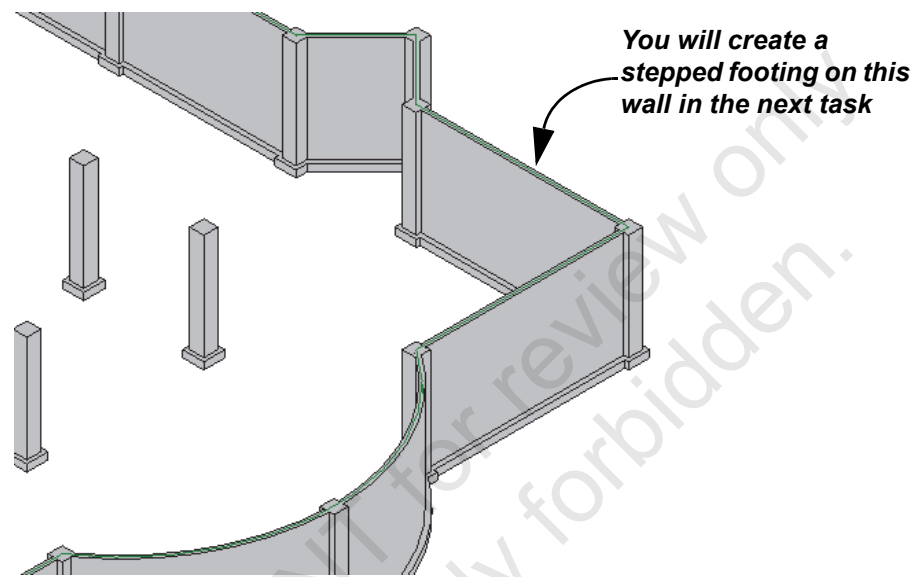

Figure 1-94
11. There should be an isolated footing under each pier and pilaster, as shown in Figure 1-94.